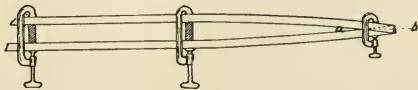

FIG. 75.—OVERLAPPING ENDS OF SIDE STRIPS.
1. Squaring up side strips and cutting taper at ends. — The side strips are planed 1" square and are then clamped to two blocks 3" wide, placed about 3' from each end. The ends are overlapped and held in place with clamps, as shown in Fig. 75. Then a line *ab* is drawn from where the pieces cross each other.
follows. 5'' from one end square a line across the strips; 10'' from this line square across another line, and repeat every 10''. The last line will be 5'' from the farther end of the strips. With the gauge set at $\frac{1}{2}$ '', gauge lines across each of the lines squared across; these locate the $\frac{1}{4}$ '' holes that are to be bored for the bolts which will hold the strips together. Place the ends of two steps between the strips and clamp in place with carriage clamps, as in Fig. 75. Be sure that the steps are centered on the lines squared across, and that the shoulders of the steps are up tight against the strips. Bore a $\frac{1}{4}$ '' hole through the strip and halfway through the step; reverse and bore from the opposite side, meeting the first hole in the center of the step. This insures a straight hole. As soon as the hole is bored, place a bolt in it, and screw on a nut and washer. Continue this until all steps are in place. The steps near the end will project beyond the strips. Mark them along the edge of the strips, so that they can be taken out and cut down to size. They are to be cut the same shape as the full-sized steps, but of course all dimensions should be reduced. When all the steps have been fitted, fasten the ends of the side strips together with large screws. Bore 1'' holes for the rungs at the place marked out for them, and then bore $\frac{1}{4}$ '' holes for the $\frac{1}{4}$ '' bolts that hold the rungs in place. Fasten the rungs in place with $\frac{1}{4}$ '' bolts.